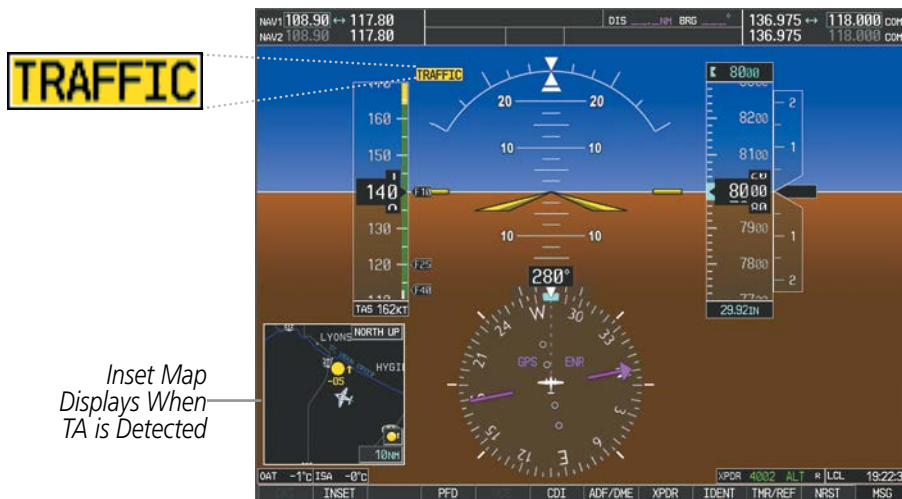

Figure 6-102 Traffic Annunciation (PFD)
- A TRAFFIC Annunciation appears at the top right of the airspeed on the PFD, flashes for five seconds, and remains displayed until no TAs are detected in the area (Figure 6-102).